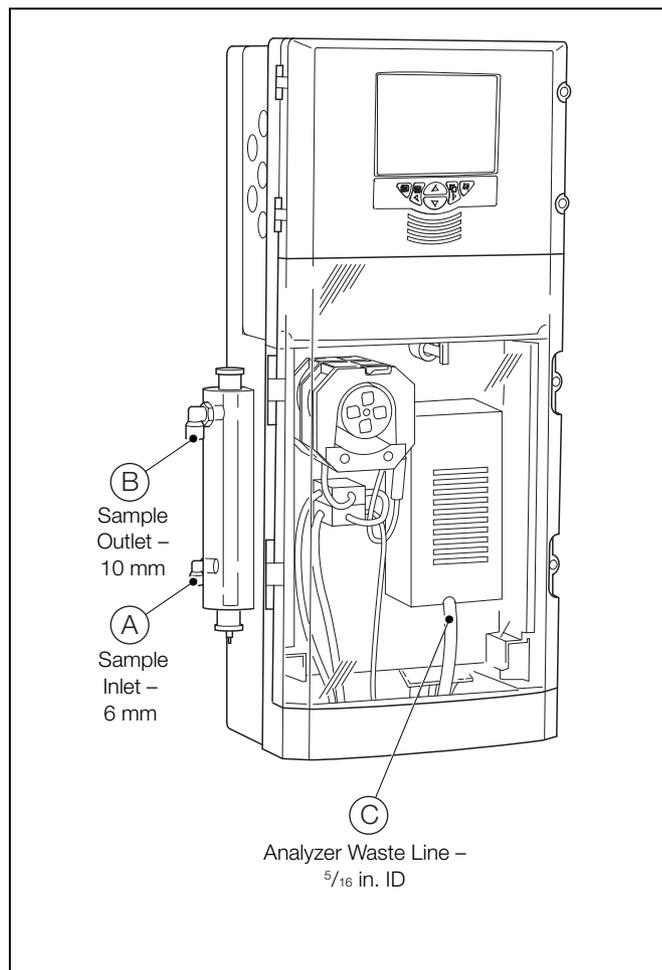

Fig. 3.9 Connecting the Sample Inlet, Drain and Analyzer Waste Lines
The sample outlet line (B) in Fig. 3.9) must be routed to maintain a gravity-fed drain.
A 0.5 m (1.64 ft) length of flexible  $\frac{5}{16}$  in. internal diameter PVC tubing (C) in Fig. 3.9) is supplied fitted to the flowcell drain connection and routed through the grommet in the hole in the bottom tray. Connect it to either an appropriate waste drain or container.